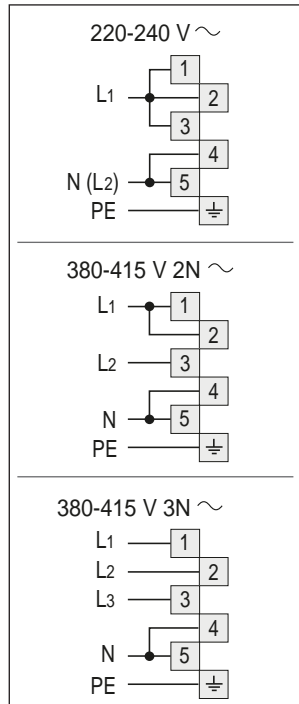

Fig. 12 Connection diagrams
- 3 Position the U bolts 'F' onto terminal board 'G' (figs. 13) according to the diagrams in fig. 12.
- 4 Connect the phase, neutral and earth wires to terminal board 'G' according to the diagrams in figs. 12 - 13.